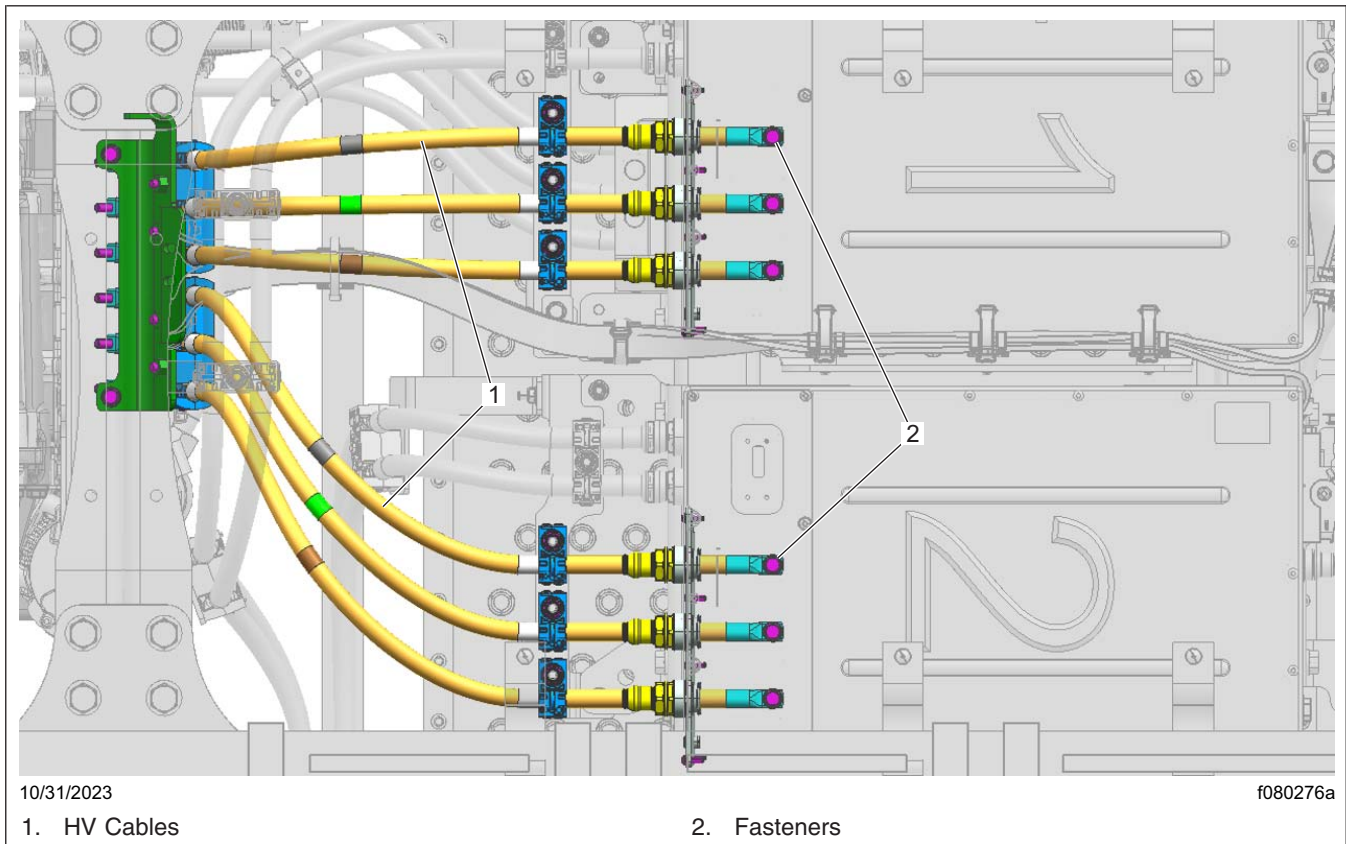

Fig. 7, HV Cables Connecting the Inverter and the Forward Rear Axle
15. Remove the HV cable lug fasteners located inside the inverters 1 and 2. See Fig. 7.